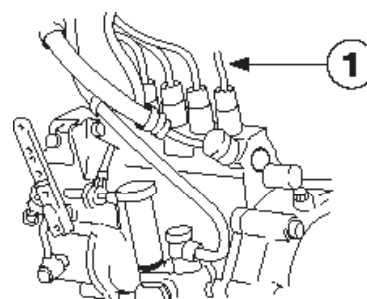

Figure 13: Fuel Injection Lines
- b. Remove the fuel injection line from the No. 1 fuel delivery valve on the injection pump (Figure 13).